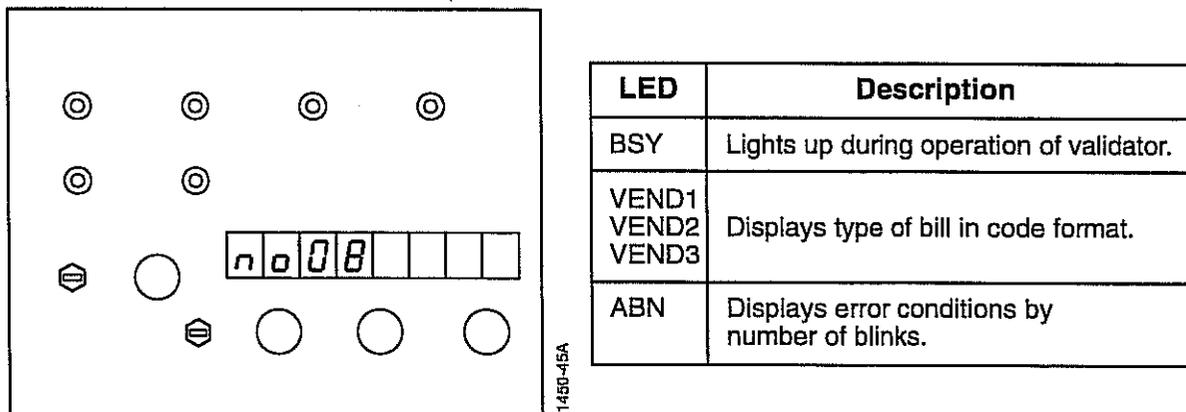

Figure 3-36. Test No. 08 Displays and Related LED Functions.
2. Make sure that no. 08 is displayed on the LED display (see Figure 3-36).